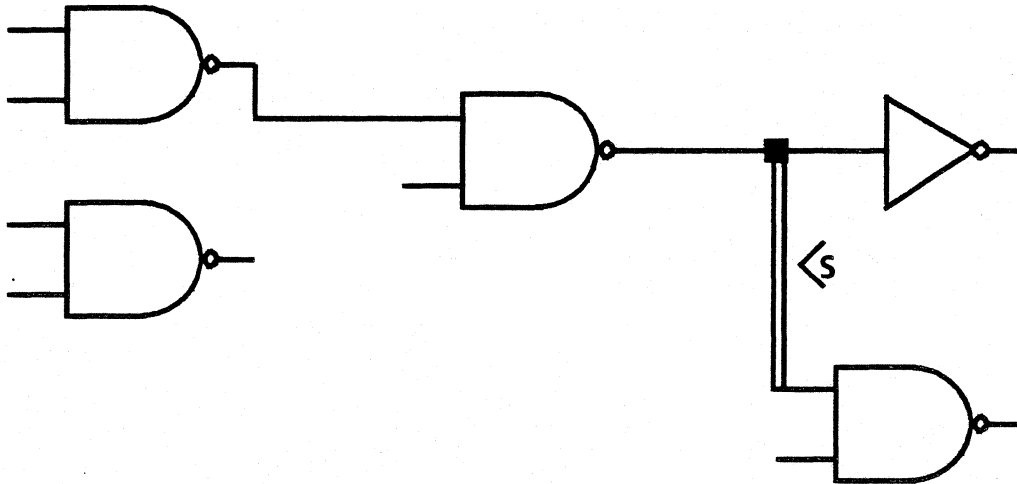

Figure 2.25
1) Select the connection path you want to edit. See figure 2.25.